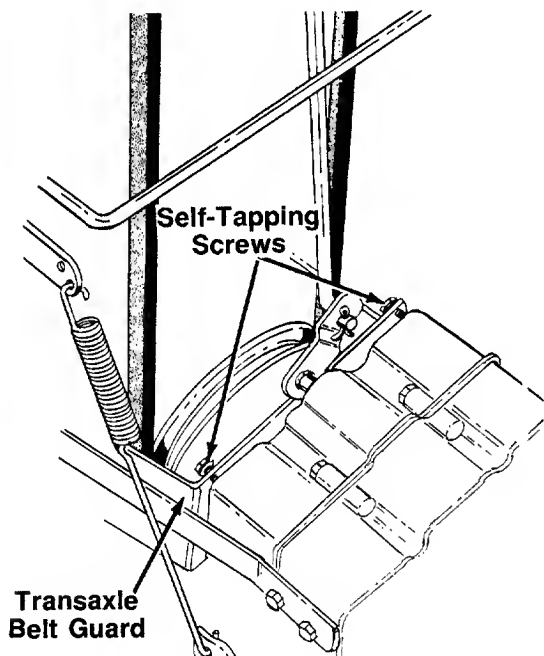

FIGURE 17.
4. Remove the transaxle belt guard by removing the two self-tapping screws. See figure 17.